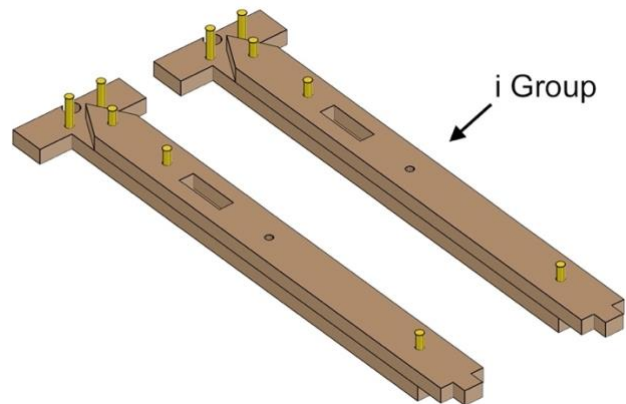

Fig. 44
- Fig. 44 shows the completed process (make two parts).